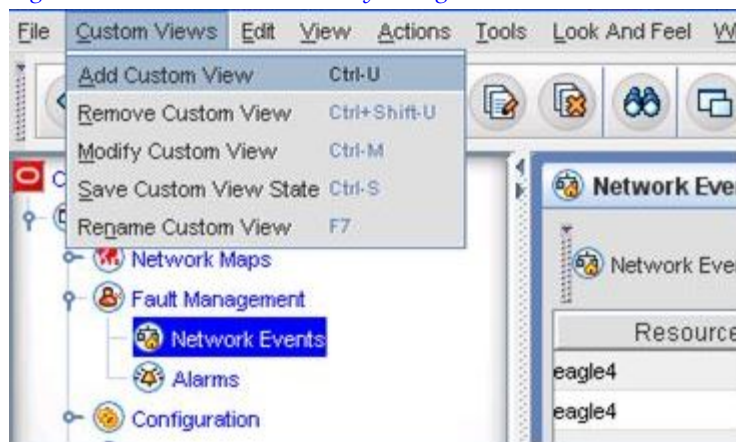

Figure 186: Add Custom View By Using Menu Bar
- From the **Custom Views** menu in the top menu bar, choose **Add Custom View** as shown in Figure 186: Add Custom View By Using Menu Bar.